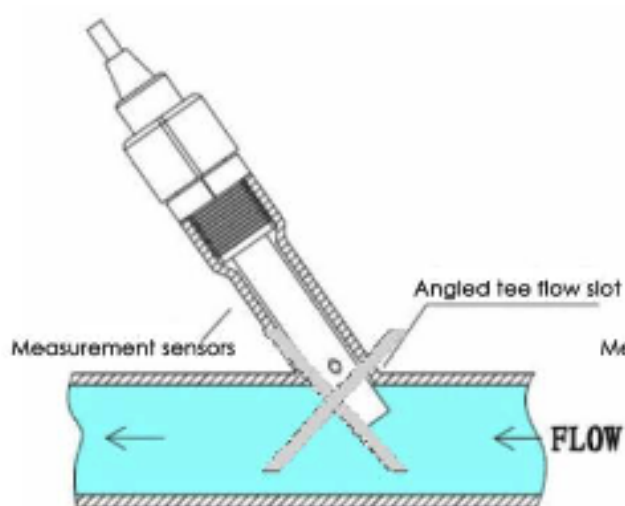
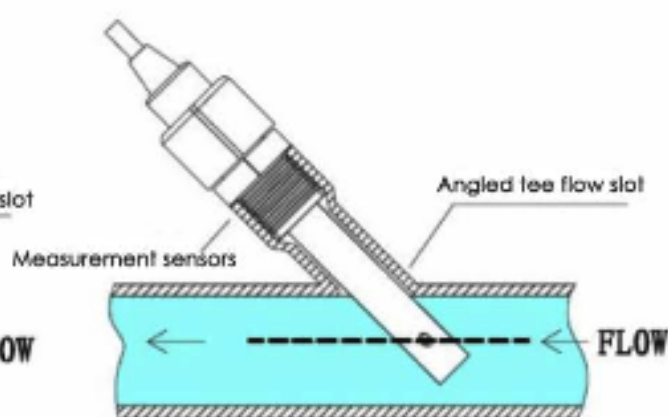

Figure 4A Wrong installation
Figure 4B Correct installation
- d. In Figure 4A a corner installation of the conductivity cell water can not flow through the measurement hole, resulting in large and unstable measurement values, should be installed in accordance with Figure 4B method.